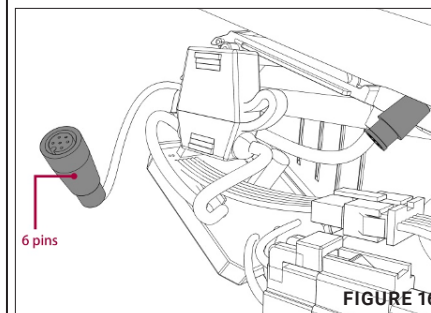

FIGURE 16
3. Remove the controller and disconnect the wire. [Figure 16]